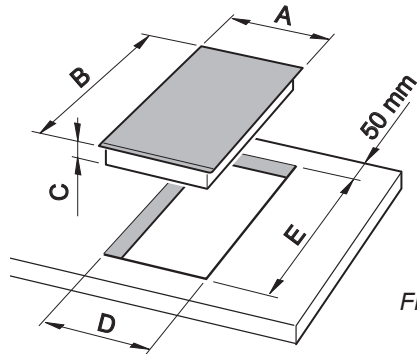

Fig. 1.1a
In order to install the ceramic hob into the kitchen fixture, a hole with the dimensions shown in figures 1.1a or 1.1b has to be made, keeping in consideration the following:
- Cut the unit according to the dimensions in fig. 1.1a and 1.1b.